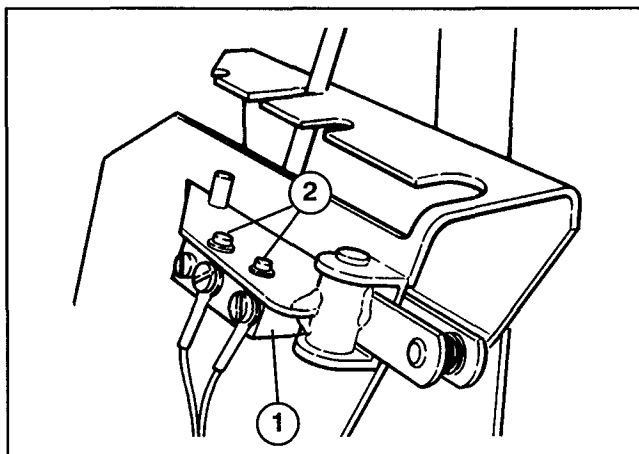

Figure 22
2. Check traction switch (Fig. 22) with a continuity tester or ohm meter and replace if damaged. The switch must be closed when the gear shift lever is in a gear. The switch must open when shifting between Neutral, First, and Second gears.